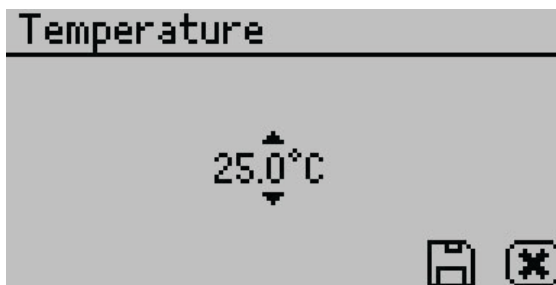

Figure 38 Temperature option
- **Temperature.** Select to set the AQUALAB 4 to the desired temperature using **UP** and **DOWN**. When finished, select **SAVE** (Figure 38).